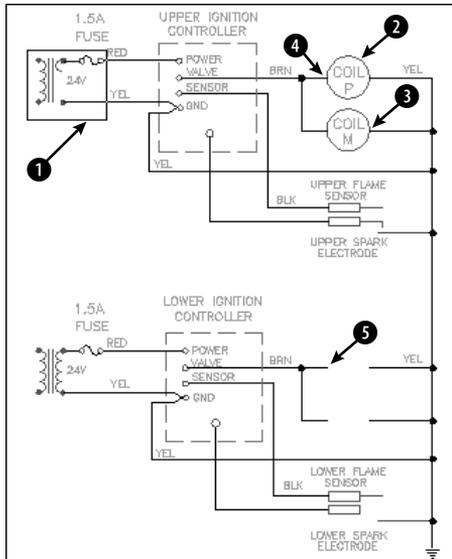

Figure 9-5: The electrical schematic.
3. Use ZOOM Window to zoom into the area of the drawing marked ❶ in Figure 9-5. This shows a 24-volt transformer.
6. Pick the circle at ② in Figure 9-5 (which shows the entire schematic section). Note the grips. You also want to select the text inside the circles, but it's hard to see because of the grips. Press Esc to remove the grips.
7. Choose Copy Object from the Modify toolbar. Now select the circle at ② in Figure 9-5 again. This time no grips obscure the text. Separately pick both lines of text inside the circle.
8. Continuing to select objects to copy, select the circle at ③ in Figure 9-5. Also select the two lines of text inside the circle. Right-click to end the Select objects: prompt.
9. At the Specify base point or displacement: prompt, use the Endpoint object snap to pick point ④ in Figure 9-5. At the Specify second point of displacement or <use first point as displacement>: prompt, use the Endpoint object snap to pick point ⑤ in Figure 9-5. Press Enter to end the COPY command. This action copies the two circles with the text.